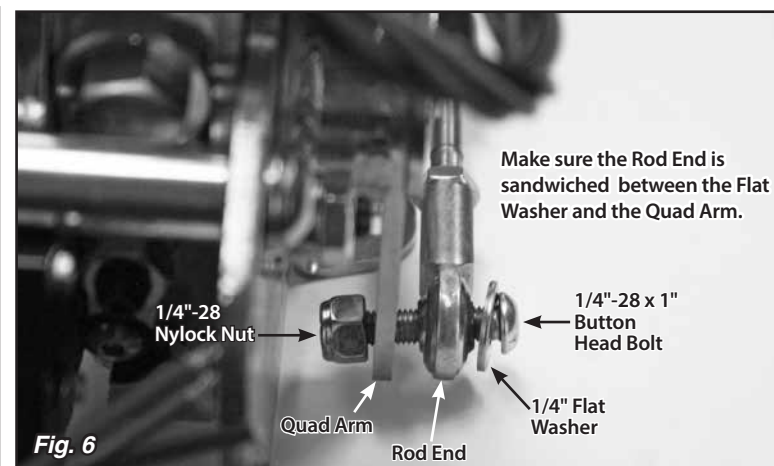

Fig. 6
Step 14: Attach the other rod end to the quad arm on the Shifter using a 1/4"-28 x 1" button head bolt, flat washer, and nylock nut. **Fig. 6** Make sure the rod end is sandwiched between the quad arm and the flat washer.